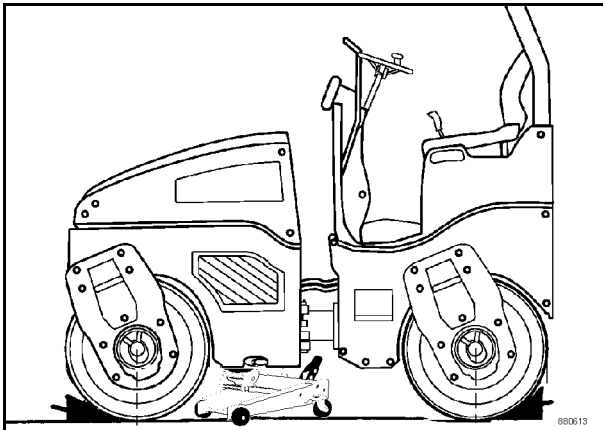

Fig. 1
1. Jack the the machine up (Fig. 1) and support it safely, so that the rubber buffers on the drive disc are unloaded.